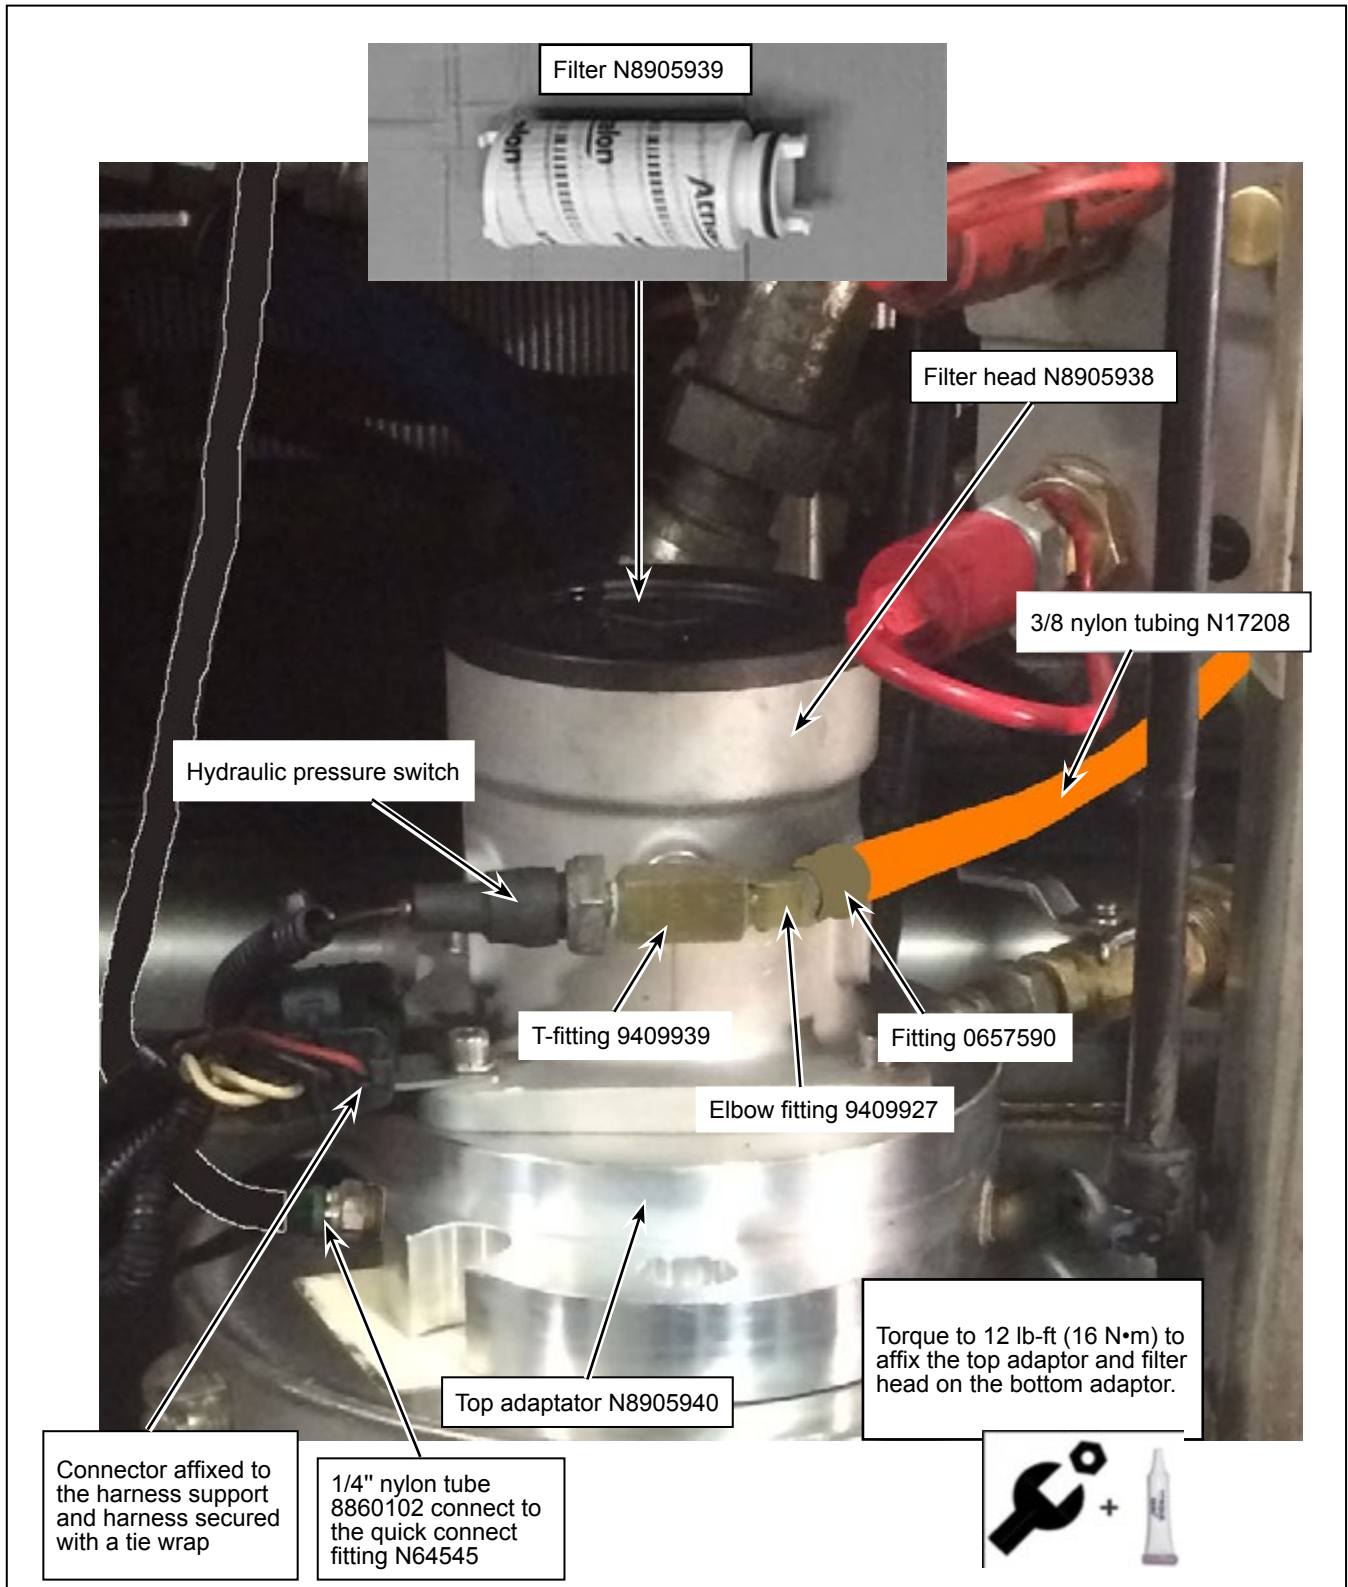

Figure 6 - Filter Head N8905938 and fittings Installed
- 1.24. Install the supplied O-ring on the top adapter plate N8905940 (included in the N8905966 kit). See Figure 6.
- 1.25. Install the top adapter plate N8905940 and the new filter head N8905938 (included in the N8905966 kit) on top of the bottom adapter using the bolt supplied in kit N8905966. See Figure 6.
- 1.26. Install the harness support bracket on one of the filter head bolt. See Figure 6.
- 1.27. Apply a thin coat of thread sealant on the new 9409927 elbow fitting and install the fitting on the new 9409939 T-Fitting. See Figure 6.
- 1.28. Apply a thin coat of thread sealant on the new 0657590 fitting and install the fitting on the new 9409927 elbow fitting. See Figure 6.
- 1.29. Apply a thin coat of thread sealant on the retained hydraulic pressure switch and install the switch at the end of the 9409939 T-fitting. See Figure 6.
- 1.31. Connect the new 3/8" nylon tube N17208 on the 0657590 fitting. See Figure 6.
- 1.32. Install the new filter N8905939 inside the new filter head N8905938 (both parts are included in the N8905966 kit). See Figure 6.
- 1.33. Connect the harness to the hydraulic pressure switch. See Figure 6.
- 1.34. Affix the connector to the harness support bracket and secure the harness using a tie wrap. See Figure 6.
- 1.35. Cut the excess length of the 1/4" nylon tube 8860102 and connect to the quick connect fitting N64545 installed on the bottom adaptor. See Figure 6.
- 1.51. Connect the 3/8" nylon hose N17208 to the 0657592 connector fitting installed on the new plate N79775. See Figure 6 and 8.